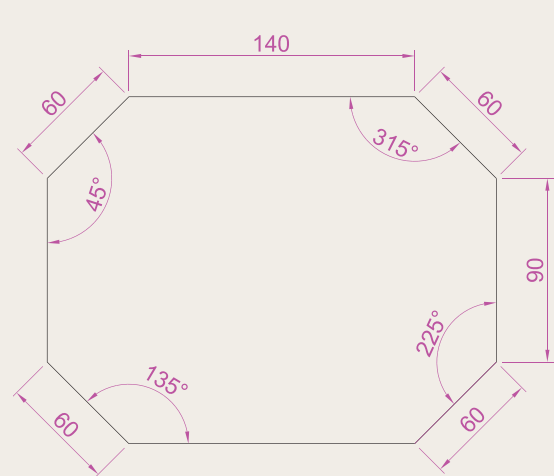

Fig. 2.30 Exercise 3
3. Using the **Line** tool, construct the outline shown in Fig. 2.30.